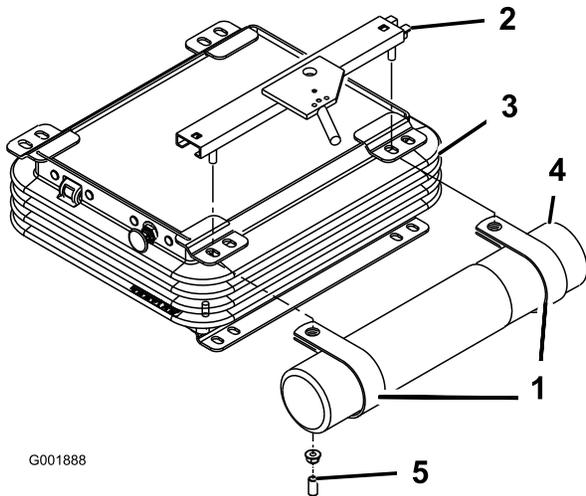

Figure 7
- Remove the 2 nuts and vinyl caps (if previously installed) securing the upper seat bracket to the left side of the seat suspension (Figure 7).
- Loosely mount the R-clamps to the seat bracket studs with the 2 nuts previously removed. (Figure 7). The R-clamps are to be positioned under the seat suspension tabs.
- Install the manual tube into the R-clamps and tighten the nuts (Figure 7).